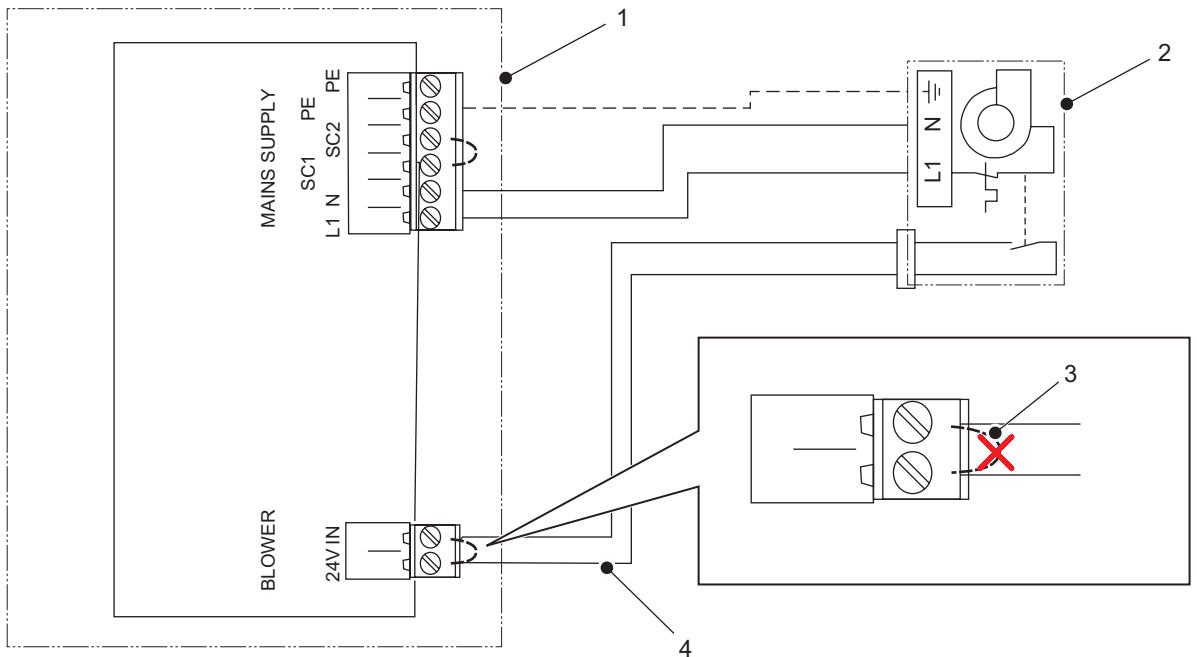

Figure 15: Driver Board Connections
- d. Wire and connect the leads to the driver board inside the humidifier, as shown in Figure 15.